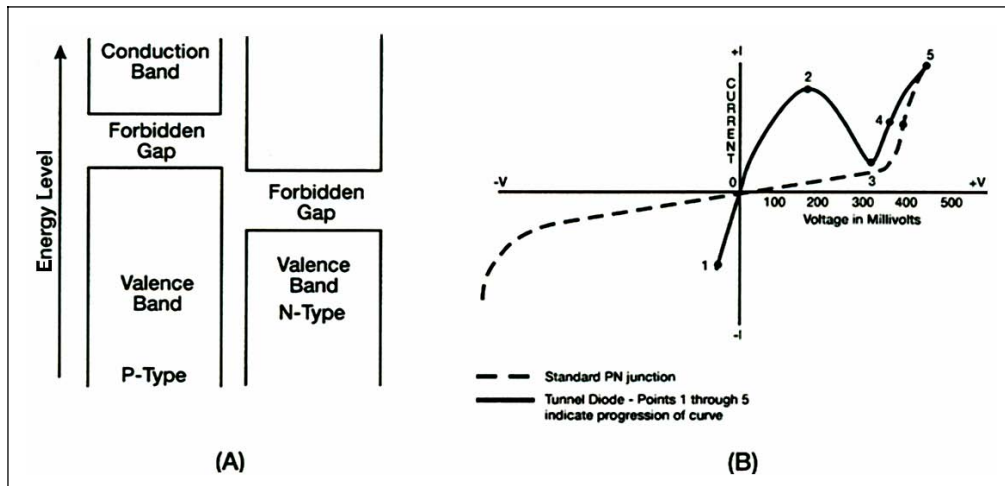

Figure 3-8. Tunnel Diode Energy Diagram With 450 Millivolts Bias
3-22. Figure 3-8, view (A), is the energy diagram of a tunnel diode in which the forward bias has been increased to 450 millivolts. As you can see, the valence band and the conduction band no longer overlap at this point and tunneling can no longer occur. The portion of the curve in view (B) from point 2 to point 3 shows the decreasing current that occurs as the bias is increased and the area of overlap becomes smaller. As the overlap between the two energy bands becomes smaller, fewer and fewer electrons can tunnel across the junction. The portion of the curve between point 2 and point 3 in which current decreases as the voltage increases is the negative resistance region of the tunnel diode.